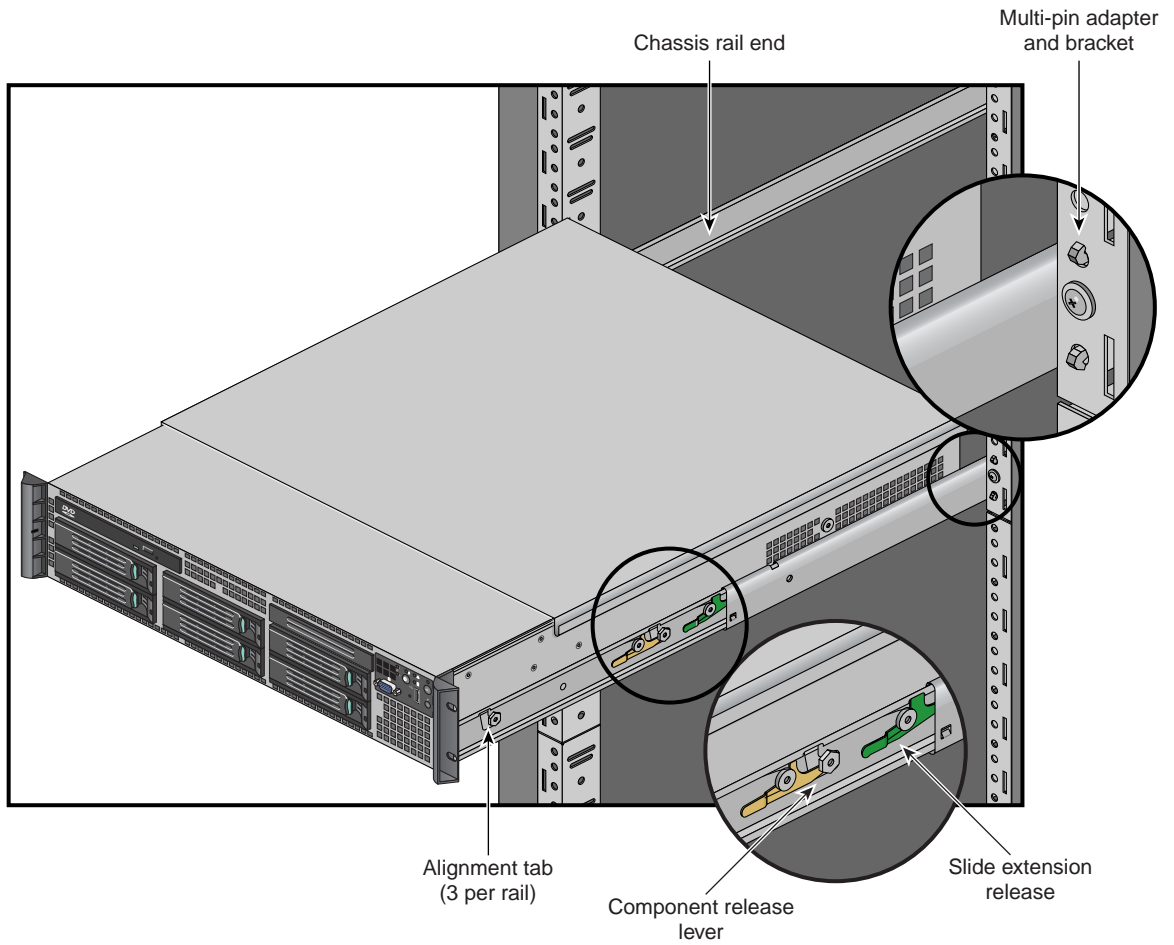

Figure 1-19 Data Manager Slide Rails
Position and secure the support rails in the rack using the information in the following steps and Figure 1-19 on page 24.
- Confirm that all the data manager's mounting studs are correctly in place on the slide rails (see Figure 1-19 on page 24 for an example), before sliding the unit into the rack.